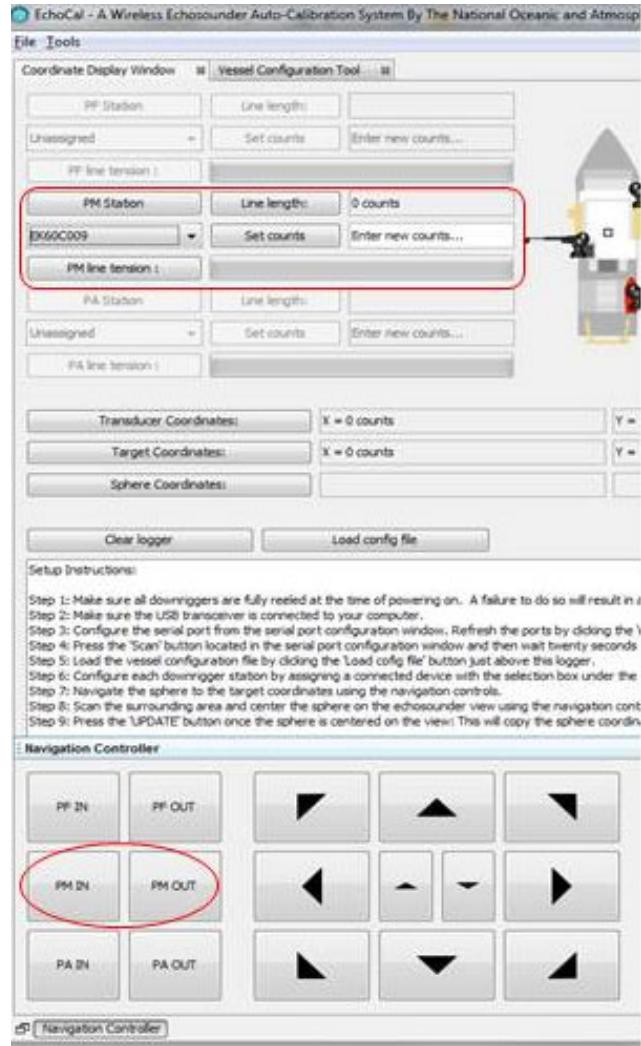

Figure 8: Testing downriggers.
- d. The operator at the PC will again remotely control the downrigger by clicking on the PM OUT and PM IN buttons. This operator should observe that the “counts” number (Figure 8) to the right of the Line length button change depending on which way the motor was rotated. The operator at the downrigger station should inform the PC operator of the motion on the downrigger wheel. If the count does not change, verify the operation of the downrigger’s encoder as stated in Section III.A:4 of this document.